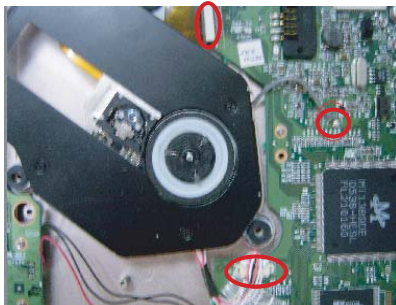

Fig.3
3. Remove DVD driver and main board as Fig.3,4 Disconnect DVD driver and main board